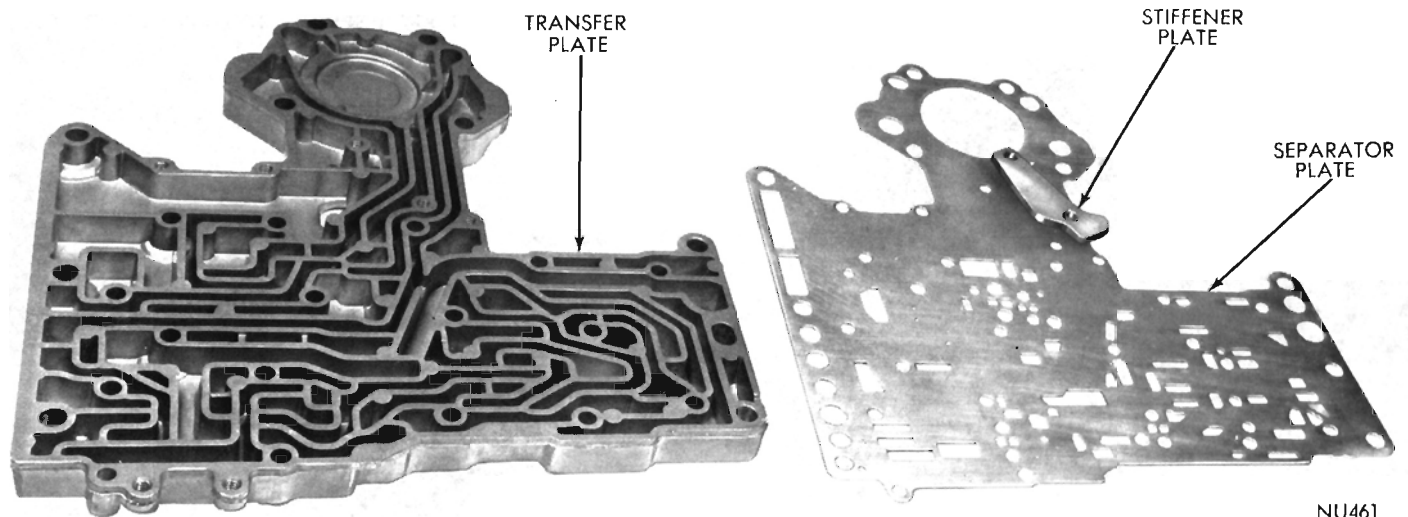

Fig. 51—Transfer and Separator Plate
stiffener plate. Remove remaining screws securing separator plate to transfer plate, and carefully lift off separator plate (Fig. 51).
(1) Place separator plate on the transfer plate (Fig. 51). **Install stiffener plate and retaining screws exactly as shown.** Make sure all bolt holes are aligned, then tighten stiffener plate screws to 28 inch-pounds.